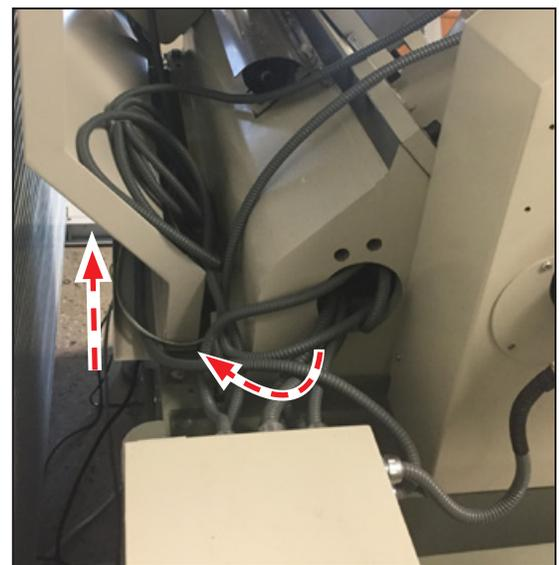

Figure 2.27
- c. Through the opposite access hole in the lathe bed casting toward the back of the lathe (see **Figure 2.27**)